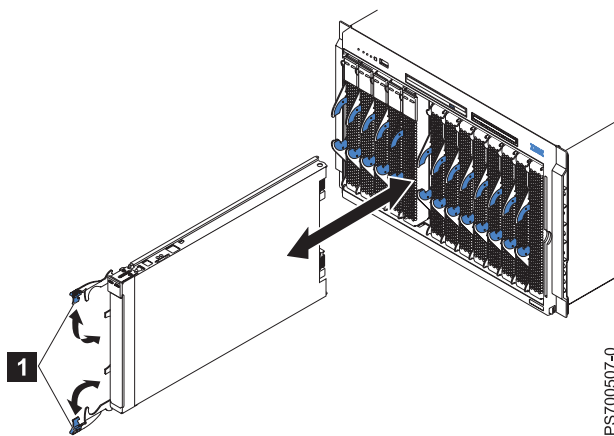

Figure 17. Installing the blade server in a BladeCenter unit
5. Verify that the release handles on the blade server are in the open position (perpendicular to the blade server, as shown in **1** in Figure 17 on page 34).